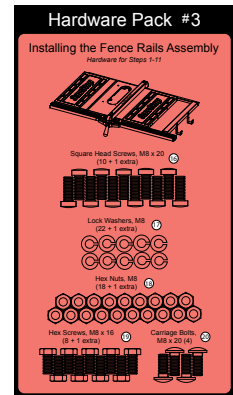

Fig. 1
1. Locate the front rail, the left and right rear rails, and hardware pack #3 (see Fig. 1). All of the hardware needed to install the rails is located on hardware pack #3. In order to easily identify the hardware used in each of the following steps, the different pieces of hardware are numbered on the hardware pack and in the figures. If you are missing hardware pack #3 or any of the other fence assembly components, call the SawStop Service Department at 503-682-6222 for replacements.